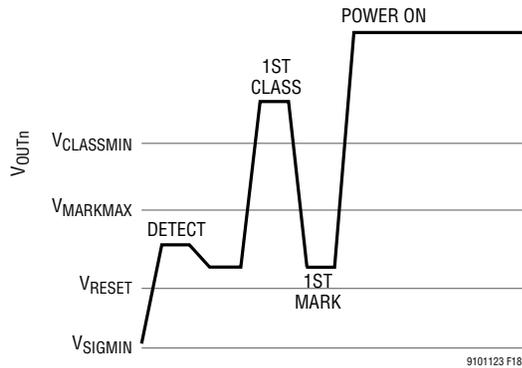

Figure 18. Type 3 or 4 PSE, 1-Event Class Sequence
Type 3 and Type 4 PSEs issue a single classification event (see Figure 18) to Class 0 through 3 single-signature (SS) PDs. A Class 0 through 3 SS PD presents its class signature to the PSE and is then powered on if sufficient power is available. Power limited 802.3bt PSEs may also issue a single classification event to Class 4 and higher SS PDs in order to demote those PDs to 13W. See Figure 18.